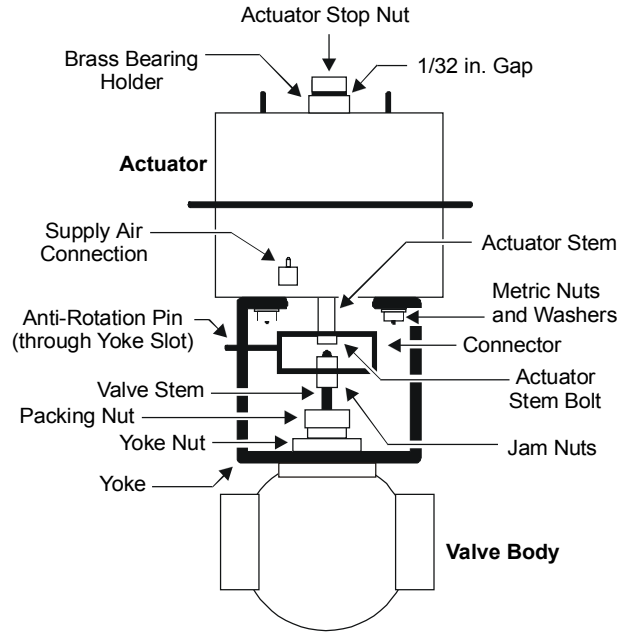

Figure 3: Components of a Spring-Return-Down Actuator
9. Thread the lower jam nut against the connector, and tighten it until there is a 1/32 in. gap between the actuator stop nut and the brass bearing holder at the top of the actuator. (See Figure 3.)